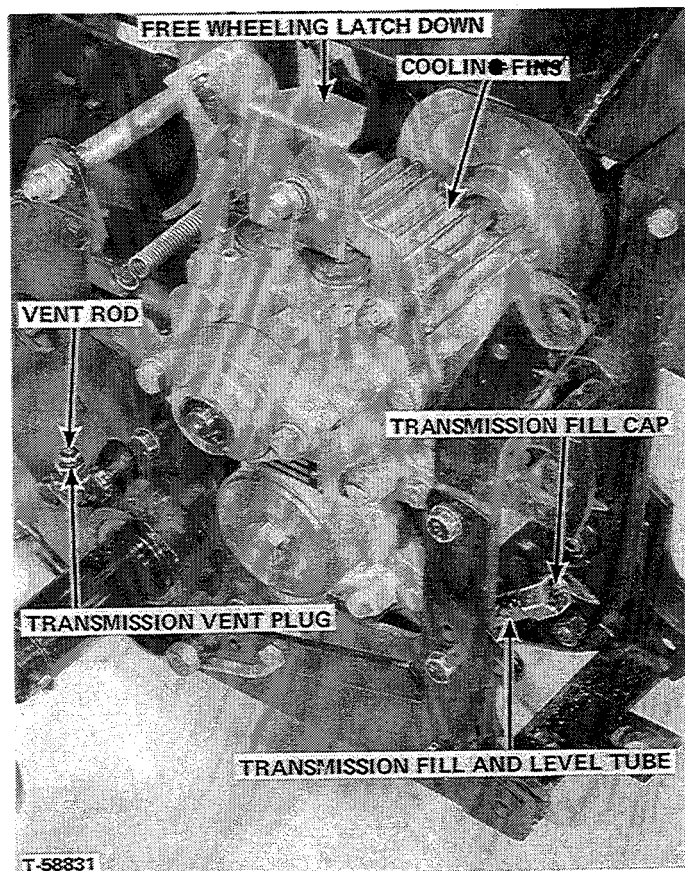
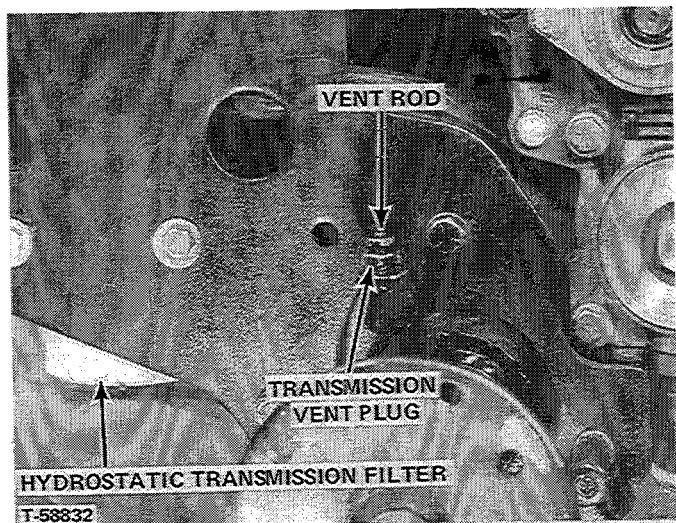

FIGURE 20 - Hydrostatic Transmission (Seat and Deck Removed)
**FIGURE 21 - Hydrostatic Transmission**
tube cap as shown in Figure 20A. This dimension should be 1/2". If it is greater than this, as it is in Figure 20-A, the street elbow into which the fill and level tube is threaded must be rotated counterclockwise about the end threaded into the transmission housing until the fill tube cap moves to the 1/2" dimension shown in Figure 20B.
- B. Make sure that the hydrostatic control lever is in the neutral position, that any P.T.O. clutch levers are in the disengaged position, that the parking brake is set, and that the free wheeling latch (See Figure 20.) is pushed completely down, disengaging the hydrostatic drive pump.
- C. Carefully clean all dirt away from the vent rod and plug (Figures 20 and 22) and from the transmission fill and level tube and fill tube cap.
- A. With hydrostatic transmission oil hot, park tractor on level ground, place hydrostatic control lever in neutral, place any P.T.O. clutch levers in the disengaged position, engage parking brake, and stop engine. Press free wheeling latch (Figures 20 and 21) down firmly to disconnect the hydrostatic pump.
- B. Remove hydrostatic transmission drain plug from lower R.H. side of transmission (Figure 21). Remove dirt from around transmission fill cap (Figure 20), and loosen cap to permit air to enter transmission.
- E. Remove the transmission fill tube cap and clean dirt away from vent rod and transmission vent plug. Before filling be sure fill tube is located as outlined in Item 1 "Hydrostatic Transmission Oil Level Check." Using a clean funnel, pour new, clean, Allis-Chalmers Power Fluid 401 or Dexron automatic transmission fluid into the fill tube while holding the vent rod up (Figures 20 and 22), until fill tube is full and will no longer accept more fluid. Then replace the fill tube cap hand tight only.
Every four hours of operation, lift the seat deck and examine the hydrostatic transmission cooling fins (Figure 20) and the cooling fan and fan screen for dust and dirt. Keep area clean for cool and efficient hydrostatic operation.